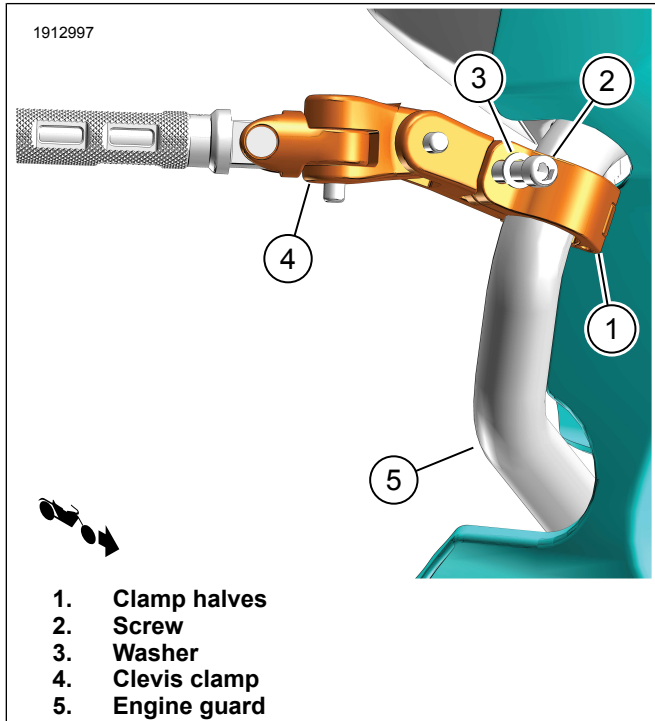
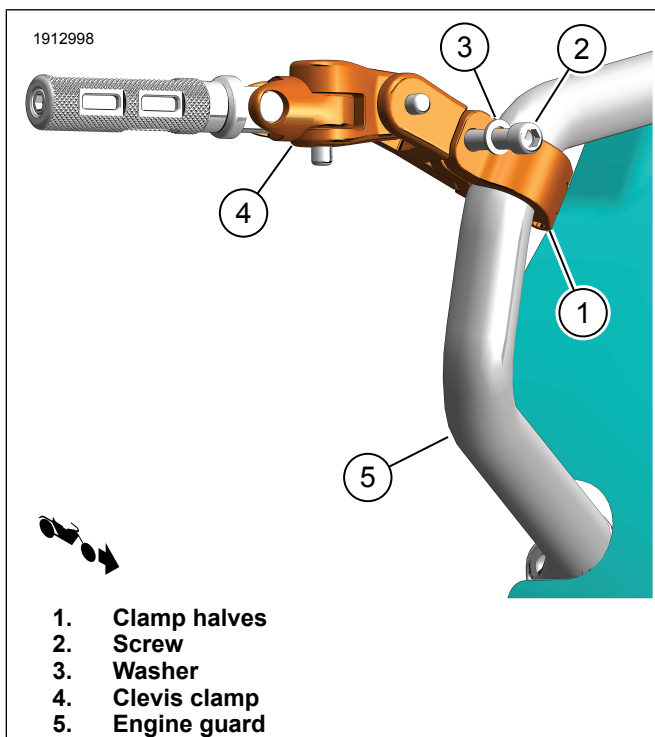
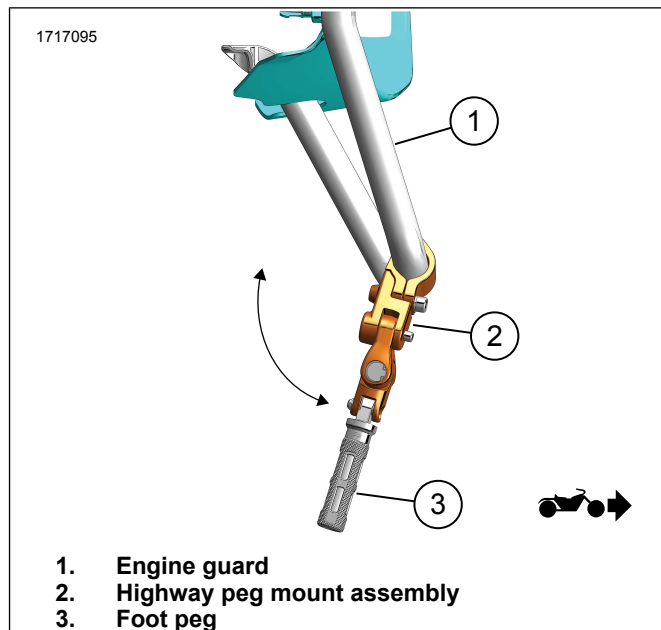

Figure 5. Footpeg Install With Lower
Figure 6. Footpeg Install Without Lower
Figure 7. Preferred Highway Peg Mount Angle
1. See Figure 5 or Figure 6. Position footpeg clamp halves (1) on engine guard (5).
- c. See Figure 5 or Figure 6. Make sure screw (2) is accessible from front of vehicle.
- d. Vehicles with lower fairings may require slight adjustment on engine guard (5).
2. Install clevis clamp (4) to clamp halves (1).
3. Install washer (3) and screw (2).
- a. See Figure 7. Position assembly in preferred angle for highway peg mount assembly (2). Mount can be rotated toward rider if required.
- b. See Figure 5 or Figure 6. Tighten screw (2).